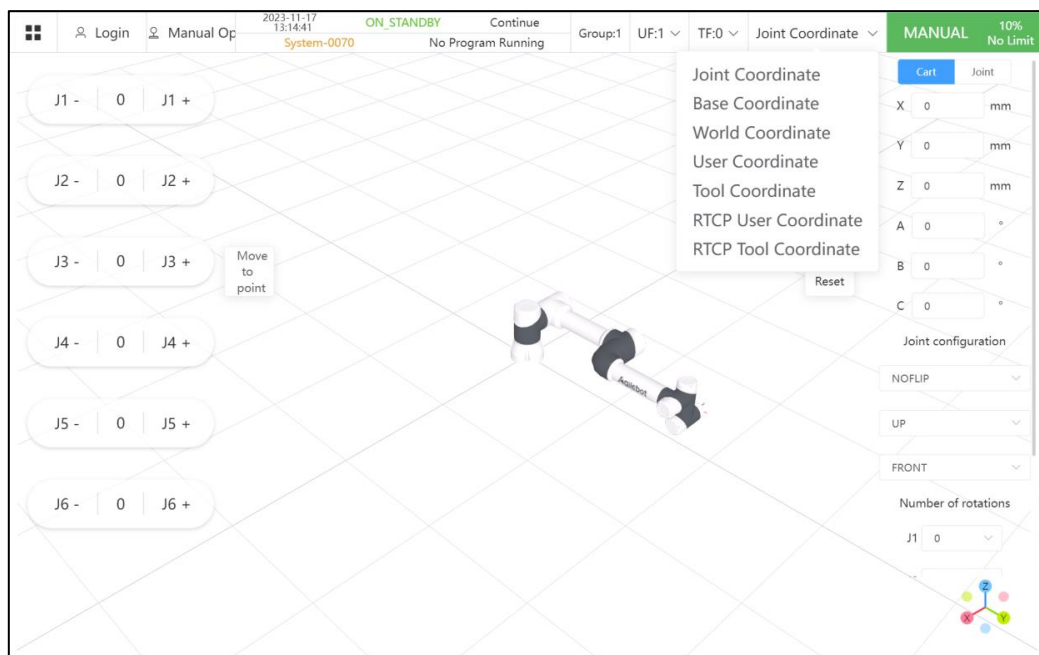

Fig. 1.14 Reference Coordinate System
2. In the status bar, select the reference coordinate system for robot operation as shown in Fig. 1.14.